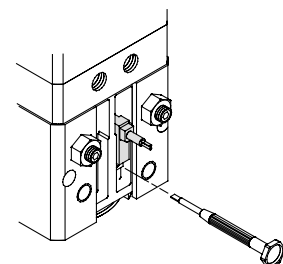

Figure 3
3. Secure the switch at an appropriate position with a flat head watchmakers screwdriver as indicated in Figure 3.